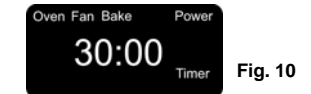

Fig. 10
- To select the desired time setting, press the "Increase/Decrease" button until the time is reached. (Fig. 10)